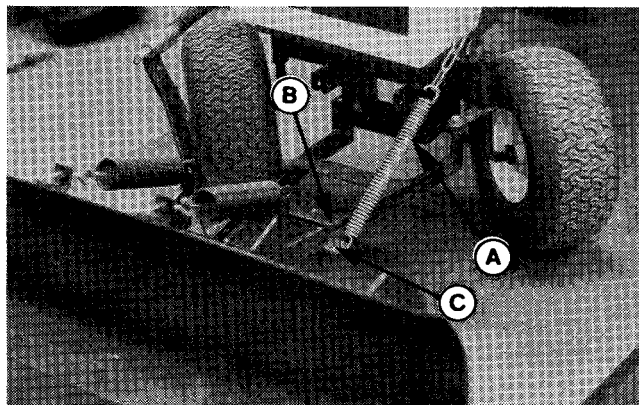

Figure 5. Lift-Assist Spring
5. Raise the push bar and hook up the spring (A, figure 5). Figure 5 shows spring location (B) for lawn tractors (4000, 5000 or 600 series). For garden tractor, 6000 Series or 800 Series, use location "C".
3. Raise push bar and unhook the spring (A, figure 5) from the chain.